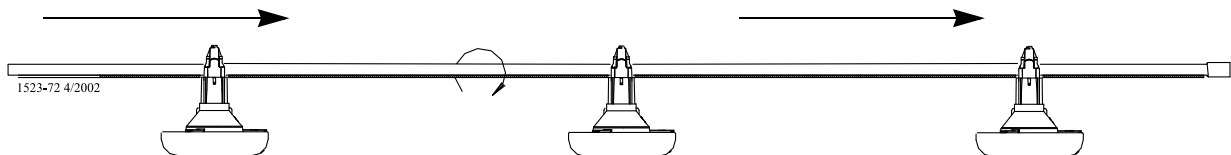

Figure 25. Assembling Feeders on the Tubes
2. Rotate the auger tubes so that the seam is down, this holds the Pan Assemblies in place on the tubes. See **Figure 25**.